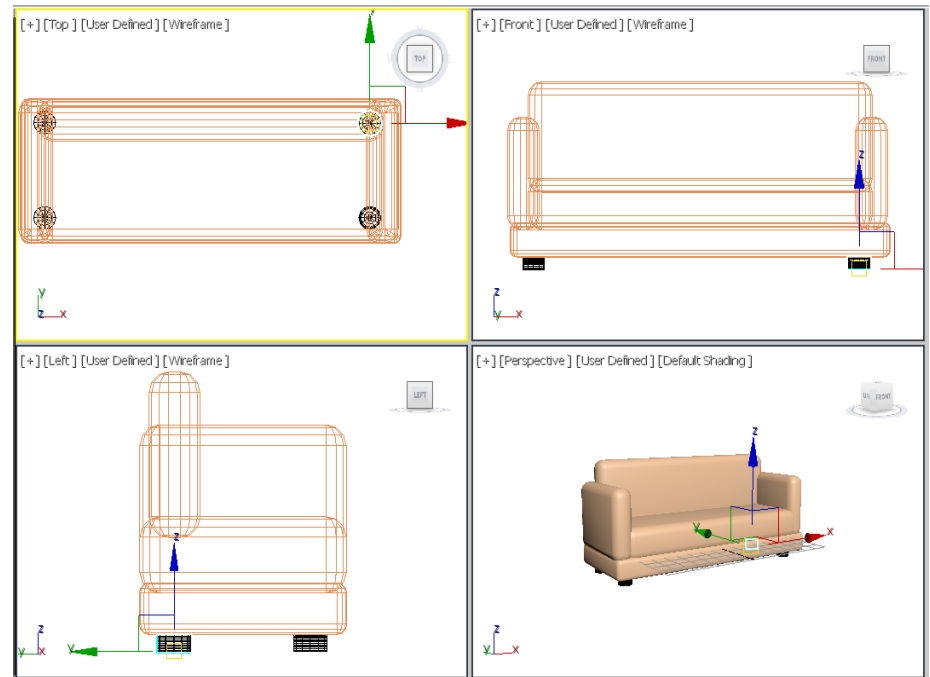

Figure 3-26 All supports aligned in viewports
7. Create three copies of *support1* as discussed earlier and align them, as shown in Figure 3-26.